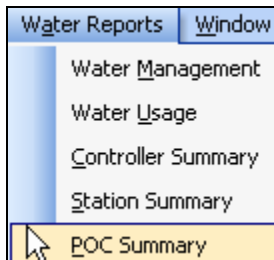

Figure 34.0.1
P.O.C. Summary: The P.O.C. Summary report is a detailed breakout of the Irrigation Controller Points of Connection for connections two (2) and three (3). The Irrigation Controller must meet the following criteria:
1. From the toolbar at the top of the screen select **Water Reports** then scroll down to **POC Summary** and click on it (Figure 34.0.1).